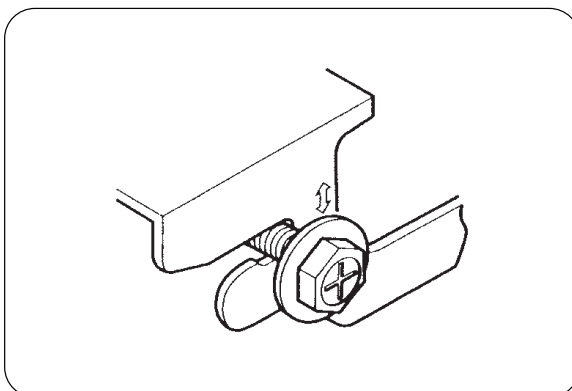

Fig.7
(7) Lift the unit and slide forward unit the dent.(Refer it Fig.7)